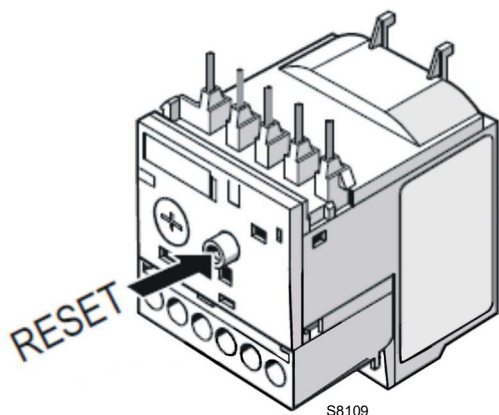

Fig. 26
- To reset, in the case of an intervention of the thermal relay, press the button "RESET" (Fig. 26).